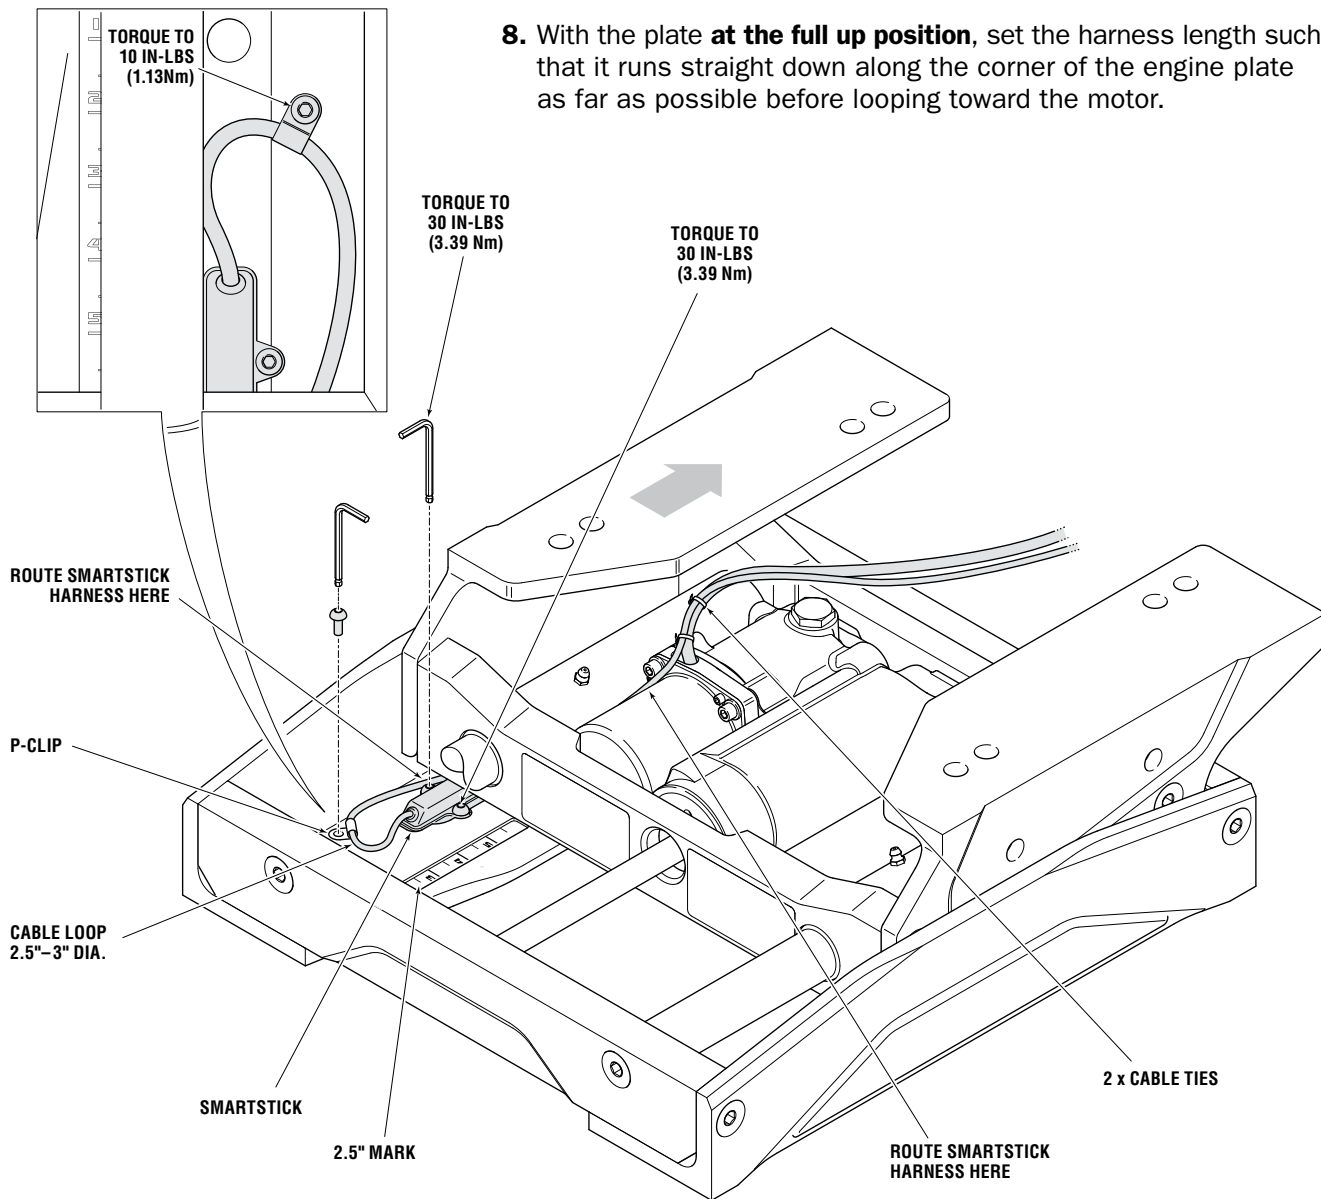

Figure 3. Smartstick Harness Installation.
7. Install the P-clip on the harness and thread the button head screw into the tapped hole on the engine bracket, arranging the harness in a 2" diameter loop as shown in figure 3 inset. Torque to 10 in-lbs (1.13 Nm).